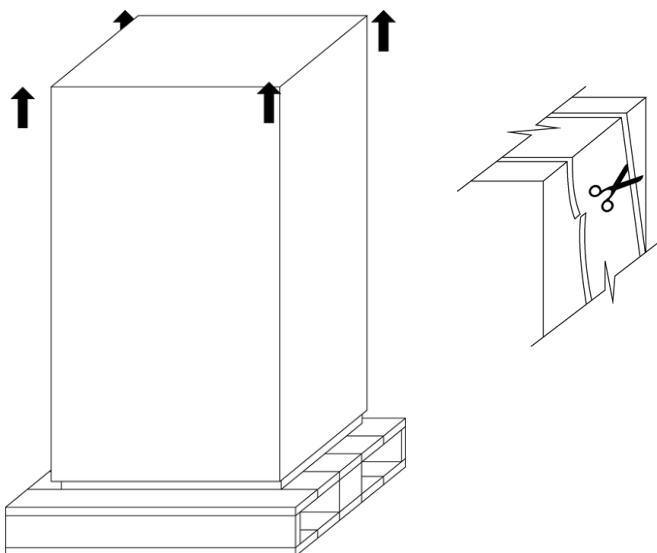

Fig 1 . Unpacking Process
- To unpack the refrigerated water bath, firstly cut the straps, then the box can be carefully slid upwards. **(Fig 1)**